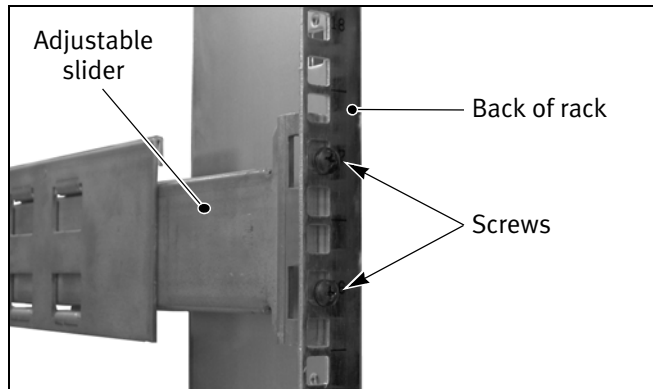

Figure 4 Attach back of the rail assembly to rack post.
5. Using a #2 Phillips screwdriver, install two screws to secure the back of the rail assembly to rear post (Figure 4). Use a level to make sure the rail is level from front to back. Do not completely tighten the screws yet.